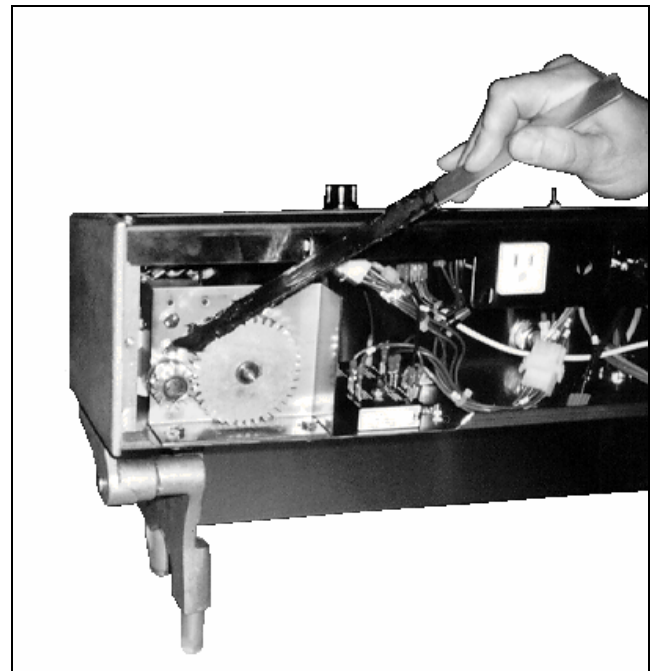

Figure 2-2. Lubricating the Drive Gears.
- * Remove the heater head cover and lightly coat the gear teeth with multi-purpose grease. Replace the cover. See Figure 2-2.